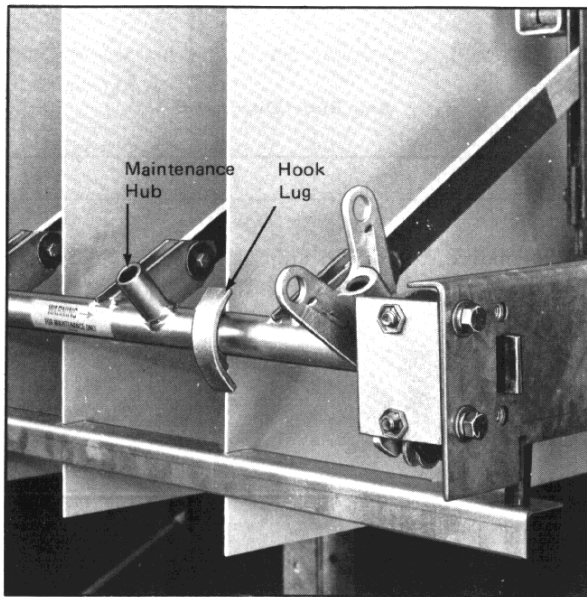

Fig. 14 Maintenance Hub Location
This interlock prevents the door of the enclosure from being opened when the switch is closed. When the switch is closed, a hook lug welded to the operating shaft engages a hasp welded to the inside of the switch door, preventing the door from being opened. (See Fig. 14.)
5.1.3 Check the engagement of the flicker blades by first closing the switch. Next, insert the removable handle in the pipe-like maintenance hub welded to the switch shaft (see Fig. 14) and slowly open the switch. The flicker blades should remain engaged in their contact fingers while the main blades open. When the main blades clear the break jaws, they will hit a stop on the flicker blade brackets and start the flicker blades out of their contact fingers. The flicker blades will then snap open from the forces in their charged torsional springs.